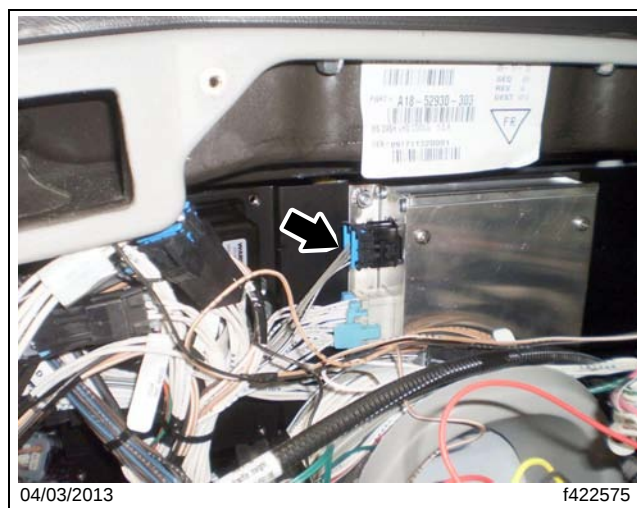

Fig. 2, ECC Connector
If wires 440X and 440G have not been relocated to a separate switch, and are still connected to the ECC as shown in **Fig. 2**, go to the next step.
11. Remove wires 440X and 440G from the ECC connector pins G and H. See **Fig. 2**.